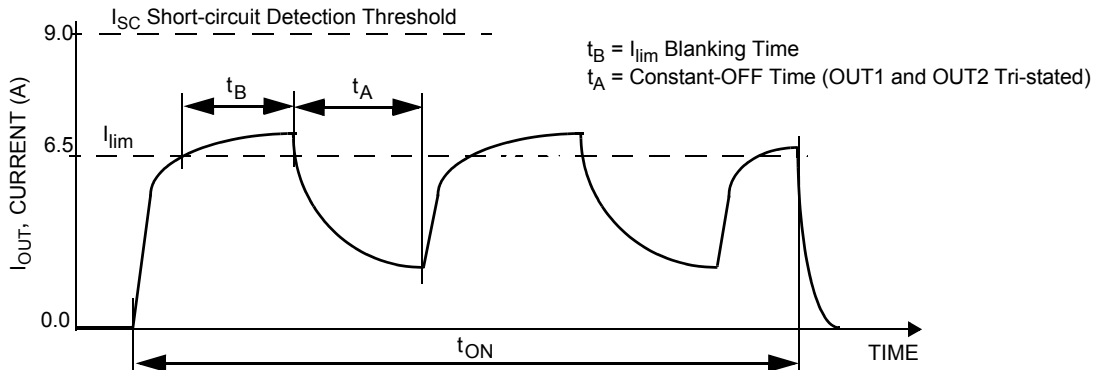
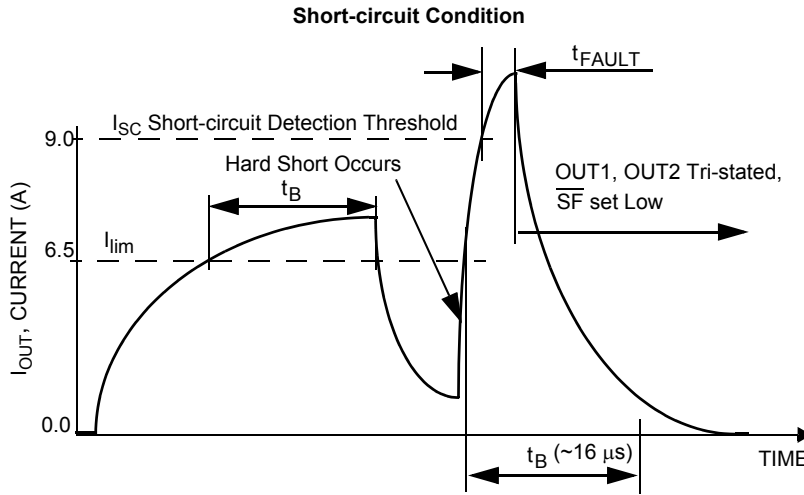
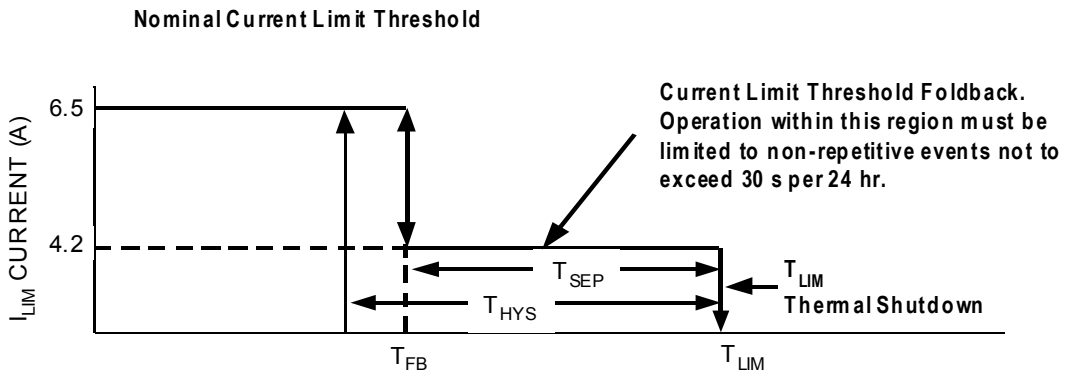

Figure 7. Current Limit Blanking Time and Constant-OFF Time
Figure 8. Short-circuit Detection Turn-OFF Time t_{FAULT}
Figure 9. Output Current Limiting Foldback Region
28. Load currents ramping up to the current regulation threshold become limited at the I_{LIM} value (see Figure 7). The short-circuit currents possess a di/dt that ramps up to the I_{SCH} or I_{SCL} threshold during the I_{LIM} blanking time, registering as a short-circuit event detection and causing the shutdown circuitry to force the output into an immediate tri-state latch-OFF (see Figure 8). Operation in Current Limit mode may cause junction temperatures to rise. Junction temperatures above $\sim 160^\circ\text{C}$ will cause the output current limit threshold to "fold back", or decrease, until $\sim 175\text{ }^\circ\text{C}$ is reached, after which the T_{LIM} thermal latch-OFF will occur. Permissible operation within this fold back region is limited to non-repetitive transient events of duration not to exceed 30 seconds (see Figure 9).